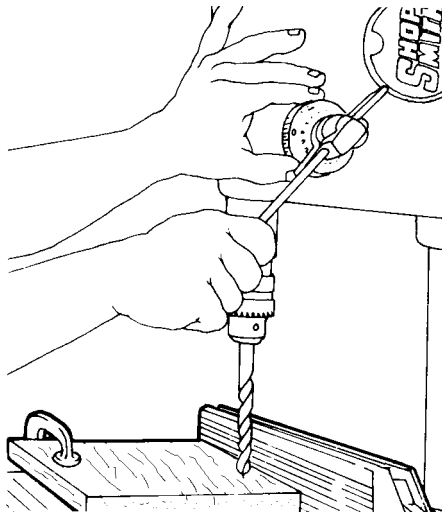

Figure C-24
- Remove the stock and extend the quill so that the cutting flutes of the drill bit touch the scrap wood. Set the depth control to $1/8$ " and tighten the depth control lock. See Figure C-24. Then let the quill retract. Position the stock under the drill bit. Hold it against the table and rip fence. Extend the quill with the machine off to check where the drill bit will drill.